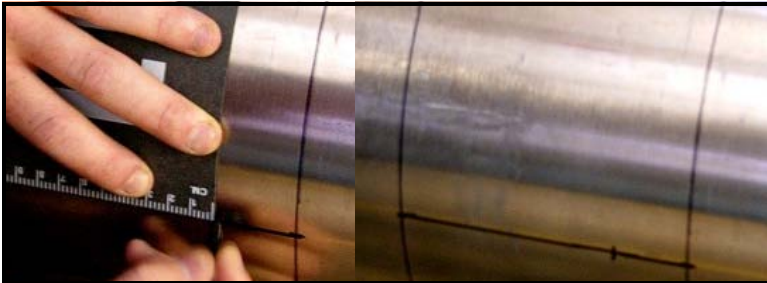

Figure 3-19: Measuring and Marking Spacing
1. Measure the spacing from the zero point (the point of circumferential origin). Mark the spacing point with a crosshair on the opposite side of the pipe, 180° from the zero point (as shown in Figure 3-19 below).